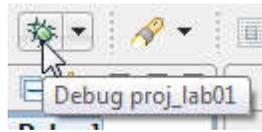

Figure 16: The CCS “Debug” bug icon
4. Select the green bug icon that symbolizes “Debug” as shown in **Figure 16**. This button should automatically change the CCS perspective to “CCS Debug” as well as load the .out file to the target.